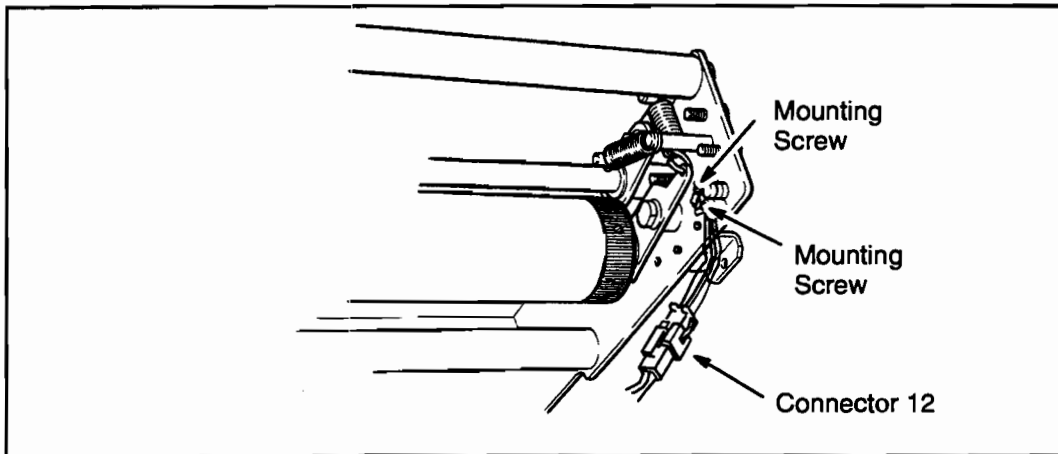

Figure 6-63. SSW2 Connector
1. Switch the plotter OFF (O) and disconnect the ac power cord and interface cable.
5. Disconnect SSW2 wiring at Connector 12. See Figure 6-63.
6. Using a #1 Phillips screwdriver, remove the two switch mounting screws and remove the switch. See Figure 6-63.